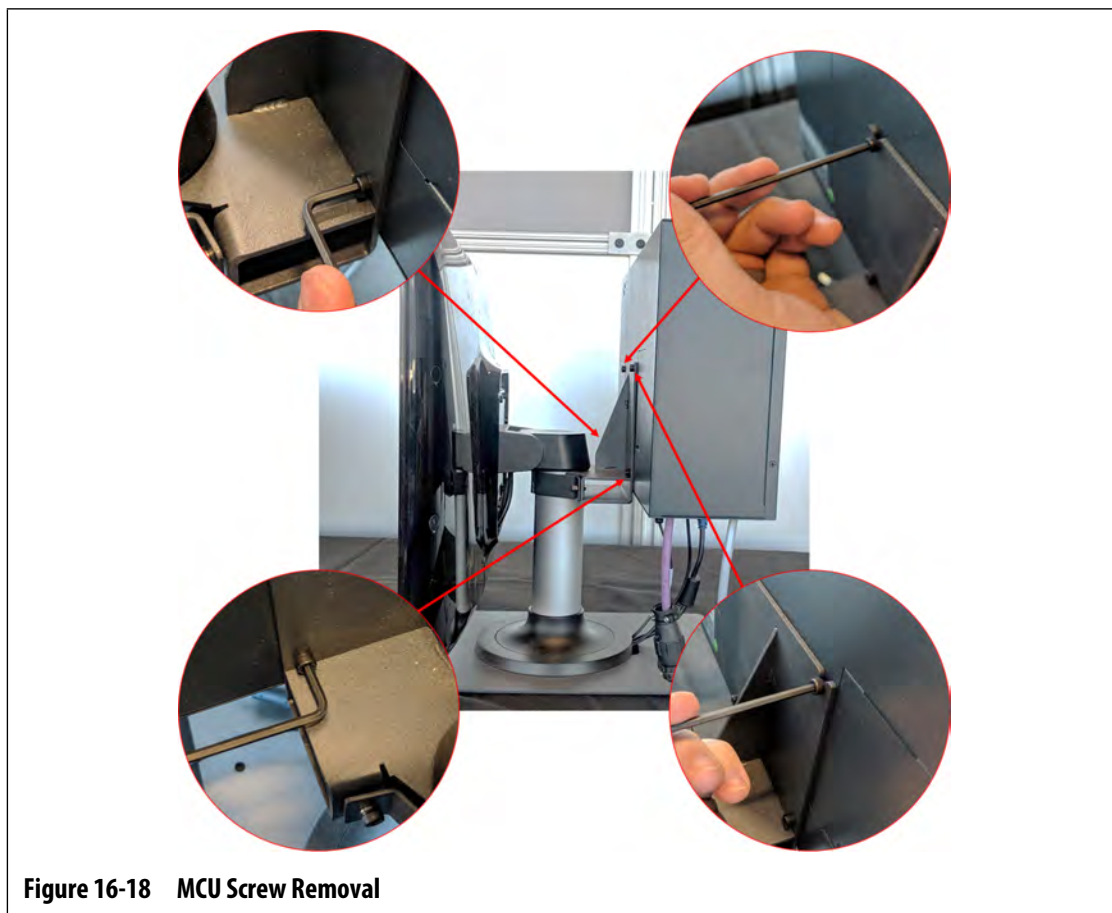

Figure 16-18 MCU Screw Removal
5. Find the two lower screws that hold the MCU to the mounting bracket and completely remove them with a 4 mm right-angle Allen key or hex wrench. Refer to Figure 16-18.
6. Find the two top fasteners that hold the MCU to the mounting bracket and loosen them with a 4 mm right-angle Allen key or hex wrench. Refer to Figure 16-18.